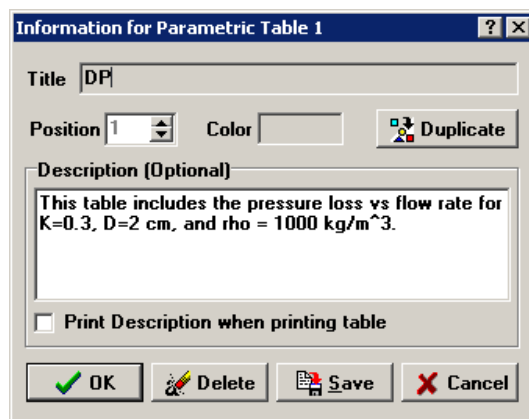

Figure 1-42: Information for Parametric Table dialog.
The Parametric Table can be renamed and annotated. Right click on the tab corresponding to the table in order to bring up the Information for Parametric Table dialog, shown in Figure 1-42. Provide a descriptive name in the Title bar (DP) and record the details of the calculation in the Description panel. The description can optionally be printed with the table.